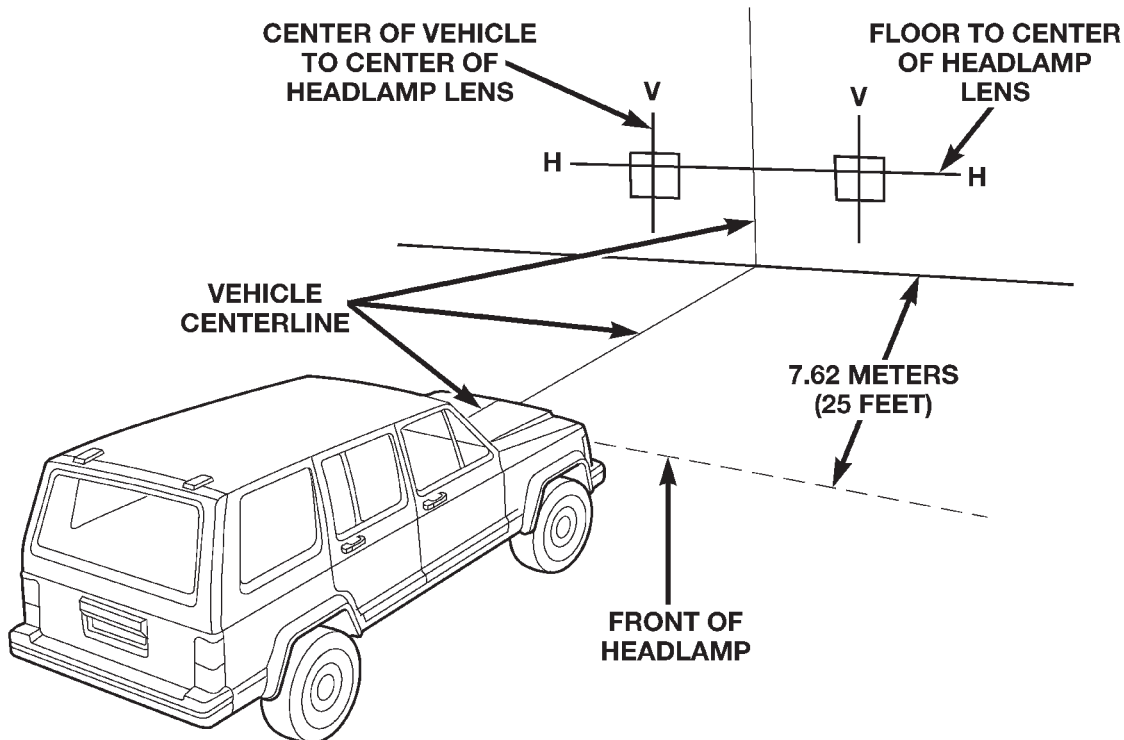

Fig. 1 Headlamp Alignment Screen—Typical
(1) Position vehicle on a level surface perpendicular to a flat wall 7.62 meters (25 ft) away from front of headlamp lens (Fig. 1).
(2) If necessary, tape a line on the floor 7.62 meters (25 ft) away from and parallel to the wall.
(3) Measure from the floor up 1.27 meters (5 ft) and tape a line on the wall at the centerline of the vehicle. Sight along the centerline of the vehicle (from rear of vehicle forward) to verify accuracy of the line placement.
(4) Rock vehicle side-to-side three times to allow suspension to stabilize.
(5) Jounce front suspension three times by pushing downward on front bumper and releasing.
(6) Measure the distance from the center of headlamp lens to the floor. Transfer measurement to the alignment screen (with tape). Use this line for up/down adjustment reference.